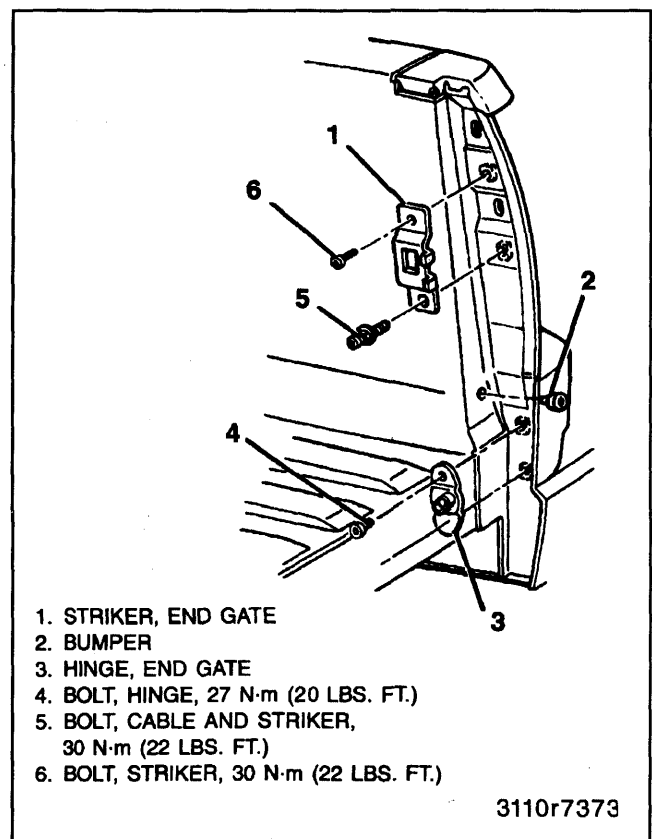

Figure 2—Side Panel Striker and Hinge Components
1. Cable on each side from the side panel striker bolts (figure 2).
1. End gate to side panel hinge assemblies holding the gate at a 45-degree angle (figure 2).
2. Cable on each side onto the side panel striker bolts (figure 2).
Remove or Disconnect (Figure 2)
Install or Connect (Figure 2)